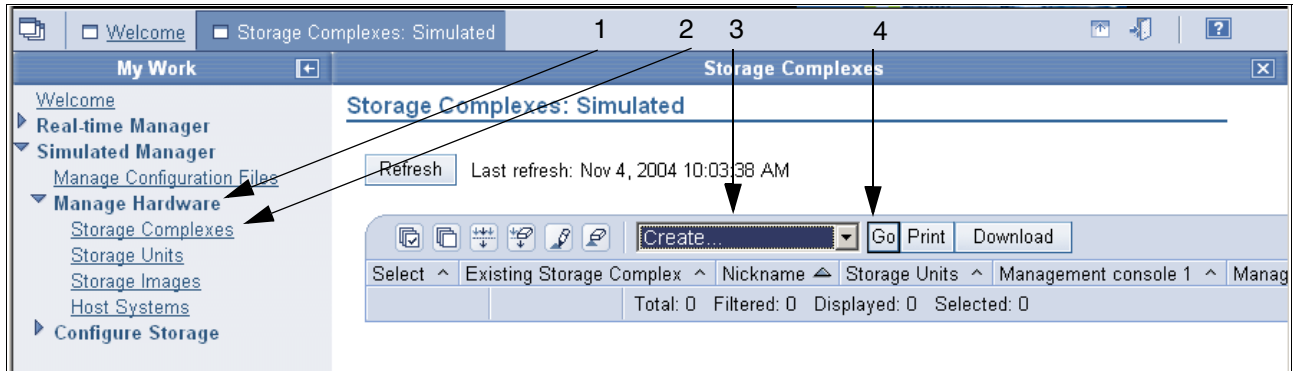

Figure 10-23 View of the Select Action pull-down menu with Create, selected
To create the storage complex, expand the **Manage Hardware** (1) section, click **Storage Complexes** (2), click **Create** from the Select Action (3) pull-down and click **Go** (4), as shown in Figure 10-23. Follow the panel directions with each advancing panel.